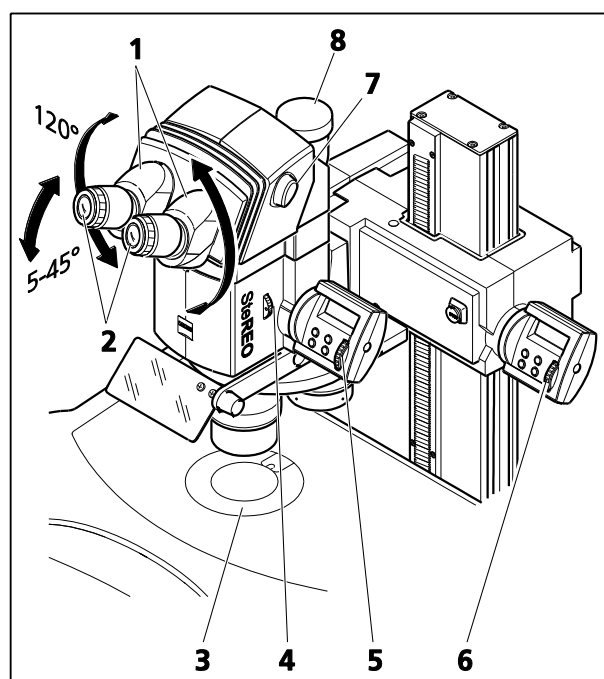

Fig. 29 Adjusting the stereomicroscope
- Place the specimen in the center of the round stage insert (Fig. 29/3).
- Set the diopter-setting ring on focusing eyepieces (Fig. 29/2) to the required value, if known, otherwise set it to "0".
- Select the desired viewing height by swiveling the eyepiece sockets (Fig. 29/1) by maximally 120°; adjust them to your interpupillary distance. You should see an unclipped circle of light when you look into the eyepieces.
- Turn knurled wheel (Fig. 29/4) to open the aperture diaphragm.
- At first, set the zoom (Fig. 29/5) to minimum magnification to find the object to be examined.
- Focus on a small, prominent feature in the center of the image (Fig. 29/6).
- Adjust the maximum zoom value (Fig. 29/5). Because of the high magnification, it is likely that the feature appears blurred again and off center.
- Search for the feature by moving the specimen and exactly re-focus on it (Fig. 29/6).
- Then, set the minimum zoom again (Fig. 29/5) and correct for any existing image blurring by separately turning the diopter-setting rings of the focusing eyepieces (Fig. 29/2) to compensate for defective vision.
If desired, connect a camera of your choice to the camera port of the ergo phototube (Fig. 29/8). To switch the light path over, turn the lever (Fig. 29/7) over. The right light path is reflected at 100 %.
- Put the object into the center of the round stage insert (Fig. 29/3).